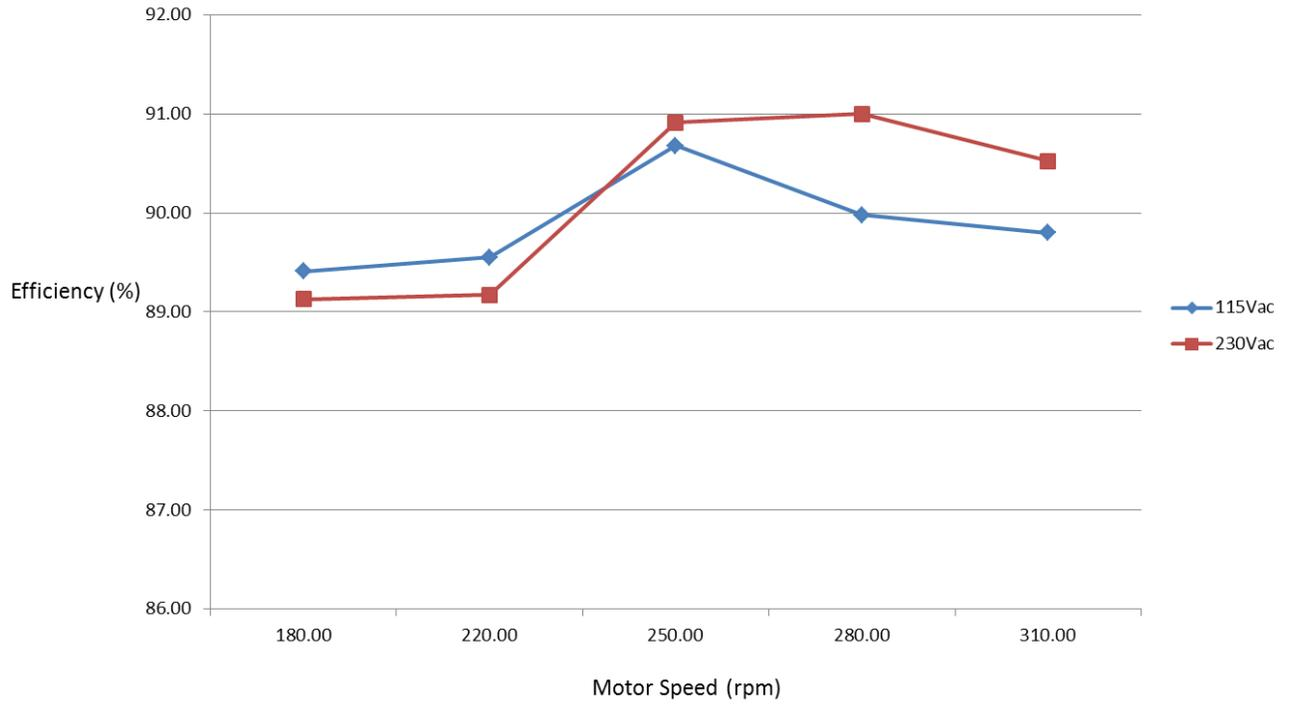

Figure2: AC/DC efficiency with respect to motor load at nominal voltages
- 1. AC-DC characterization test:** Test is performed to characterize AC/DC converter at different load (motor speed) and input AC line condition. Table below shows the data for AC/DC input power, output power at 24V and most importantly efficiency and output voltage regulation, as shown in figure 2, 3 and 4 respectively. From these figures it can be concluded that AC/DC efficiency is above 88% and output voltage remains with limits of 23.75V to 24.25 at all load and line conditions to achieve speed regulation within +/-1%. .